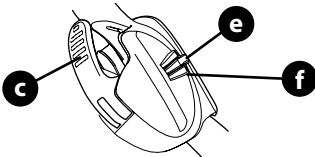

Figure 9
**IMPORTANT:** When locking the EZ-fold handle release lever (c) ensure the position indicator (e) aligns with one of three handle positions (f) (Figure 9).